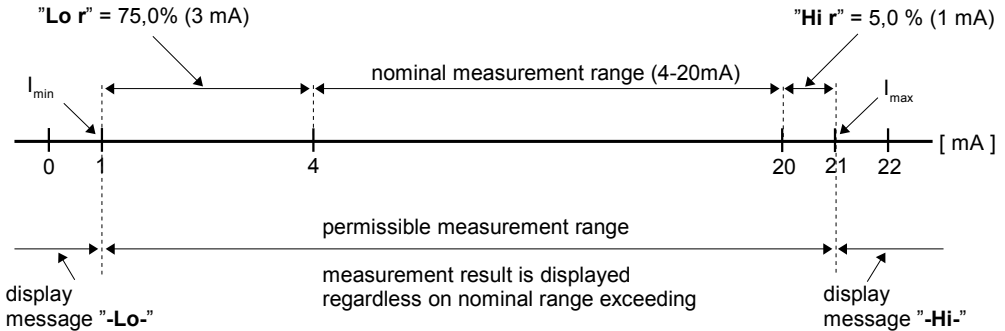

Figure 7.1 Example of definition of permissible range of input currents - "Lo r" and "Hi r" parameters ("4-20" mode)
**“Lo r”**, **“Hi r”** - These parameters define the expansion of nominal range in percent. They determine the permissible range of input currents (Figure7.1).